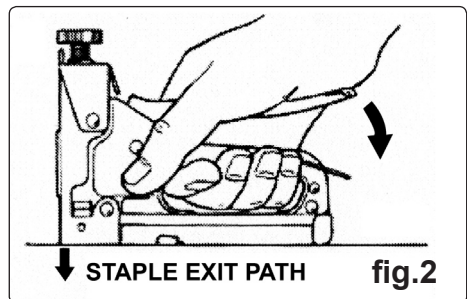

fig.2
4.2 Prior to stapling, ensure that the stapler is correctly positioned and the sole plate is in firm contact with the surfaced to be stapled. Firmly depress the trigger until the gun fires (fig.2).